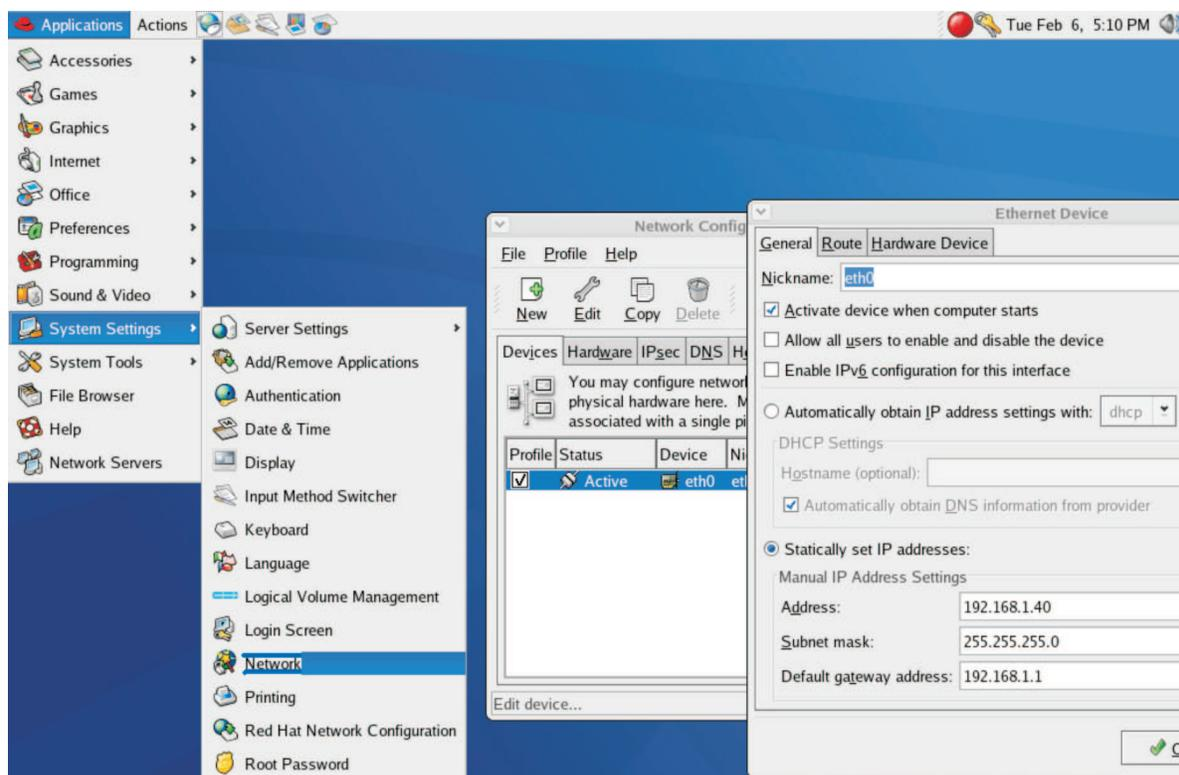

Figure 1. How to Set Static IP on Linux Host Workstation
In this section, the Red Hat Enterprise Linux 4.0 (RHEL 4.0) was chosen as the Linux distribution on the host since this is the distribution of choice recommended by TI. Note that the Linux host static IP is set to 192.168.1.40 in Figure 1.
- b. Double click on the profile line. When the *Ethernet Device* dialog box comes up, select the *Statically set IP addresses* bullet and fill in the *Manual IP Address Settings* according to the example shown in Figure 1.